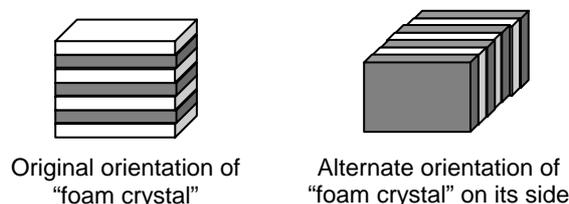

Figure 2.
11. Repeat steps 1→9 with the 'foam crystal' now placed on its side. See Figure 2.